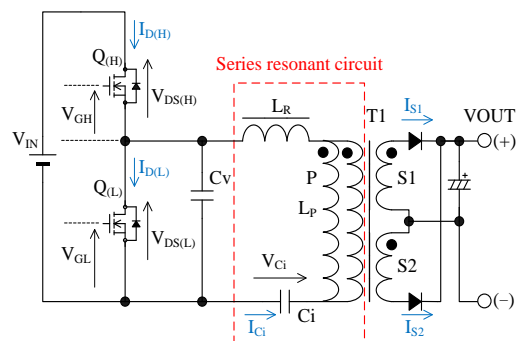
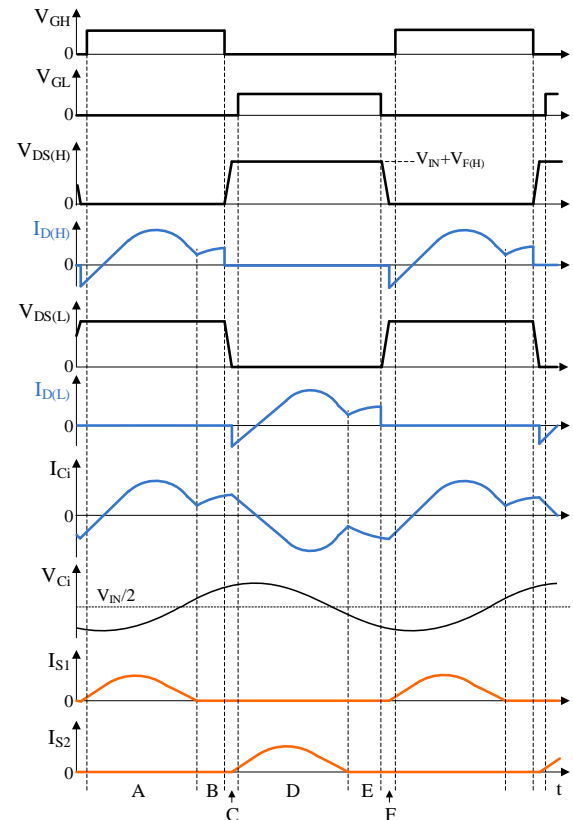

Figure 9-3. Current Resonant Power Supply Circuit
Figure 9-4. The Basic Operation Waveforms of Current Resonant Power Supply
Figure 9-3 shows the circuit of a current resonant power supply. The basic configuration of the current resonant power supply is a half-bridge converter. The switching devices, Q_(H) and Q_(L), are connected in series with V_{IN}. The series resonant circuit and the voltage resonant capacitor, C_v, are connected in parallel with Q_(L). The series resonant circuit consists of the following components: the resonant inductor, L_R; the primary winding, P, of a transformer, T1; and the current resonant capacitor, C_i. The coupling between the primary and secondary windings of T1 is designed to be poor so that the leakage inductance increases. This leakage inductance is used for L_R. This results in a downsized series resonant circuit. The dotted mark with T1 describes the winding polarity. The secondary windings, S1 and S2, are connected so that the polarities are set to the same direction as shown in Figure 9-3. In addition, the winding numbers of each other should be equal. From Equation (1), the impedance of a current resonant power supply is calculated by Equation (5). From Equation (4), the resonant frequency, f₀, is calculated by Equation (6).
Figure 9-4 describes the basic operation waveform of current resonant power supply (see Figure 9-3 for the symbols in Figure 9-4). For the description of current resonant waveforms in normal operation, the operation is separated into a period A to F. In the following description: